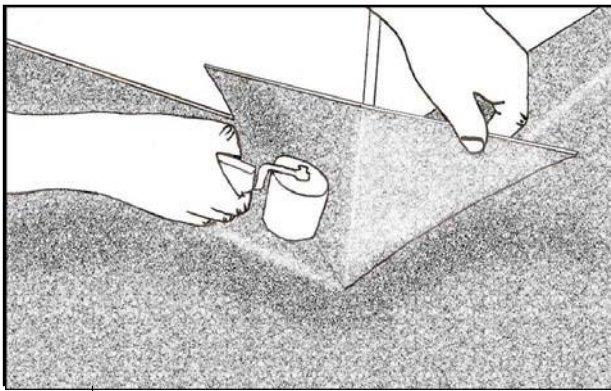

Fig 15.
5. Apply contact adhesive to the back of the infill, then after flash off time, position the Butterfly Infill and glue in place. Hand roll to ensure a good bond. (See Figs 15 & 16.)